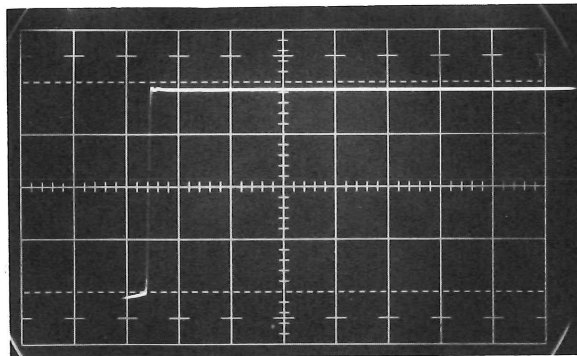

Figure 17
3. Check HF compensation for max. aberration of 2% p-p. See Figure 17.